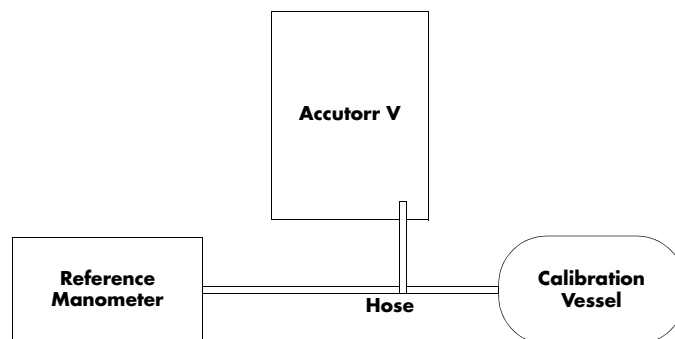

FIGURE 6-1 NIBP calibration configuration
1. Attach the calibration vessel and reference manometer as shown in FIGURE 6-1.